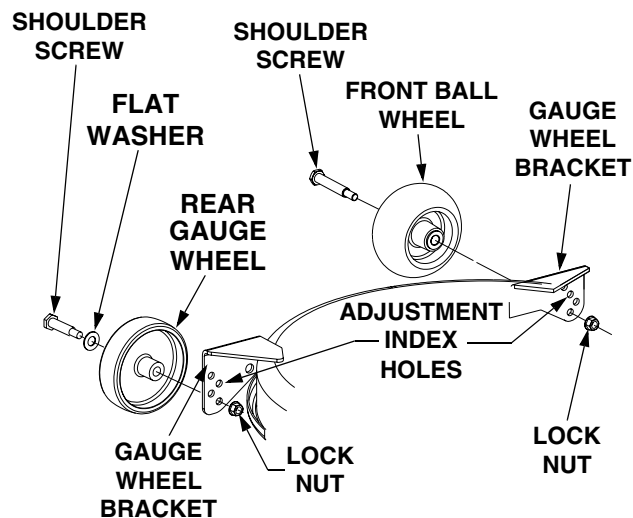

Figure 33
To adjust the height of the gauge wheels, place the tractor on a firm and level surface. Refer to Figure 33, and proceed as follows:
1. Position the tractor and mower deck on a firm, level surface. Raise the gauge wheels to their highest setting in the gauge wheel brackets (Refer to Figure 33).